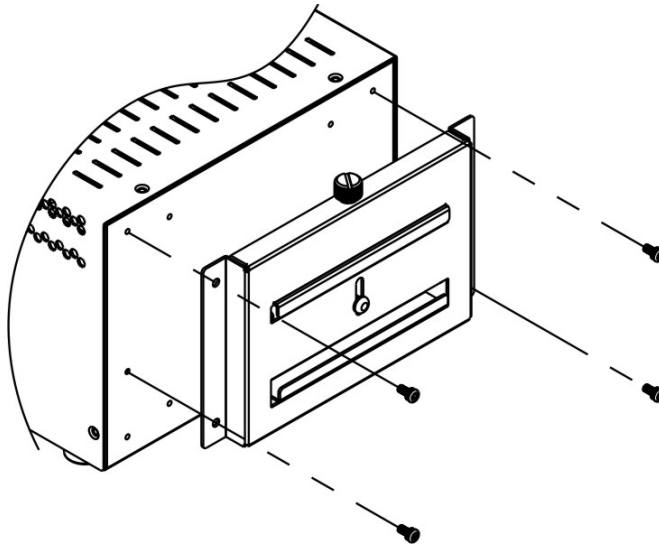

Figure 4-14: DIN Rail Mounting Bracket
Step 1: Attach the DIN rail mounting bracket to the bottom panel of the embedded system. Secure the bracket to the embedded system with the supplied retention screws (Figure 4-14).